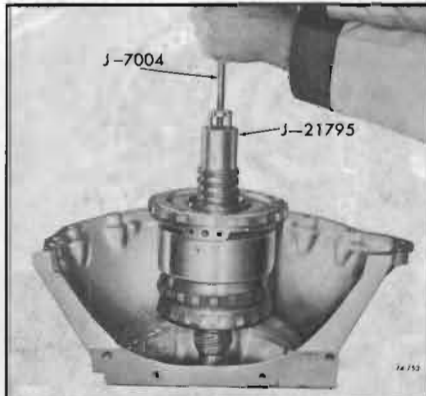

Figure 74-753
8. Install complete gear unit assembly into case making certain center support bolt hole is properly aligned with hole in case. See Figure 74-753.